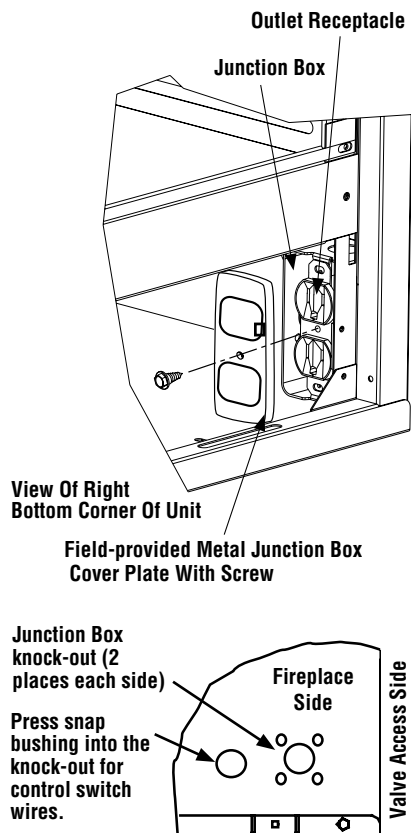

Figure 45
B. Electronic Wiring (See *Figures 45 and 46*)
3. Remove the junction box/outlet receptacle assembly by removing the securing screw at the front right corner of the unit. See *Figure 45*.
8. Wire and install the outlet receptacle to junction box. Next, install into the chosen corner of the control compartment as shown in **Figure 45**.
9. After the receptacle/junction box wiring is complete, install the field-provided metal junction box cover plate (see **Figure 45**).